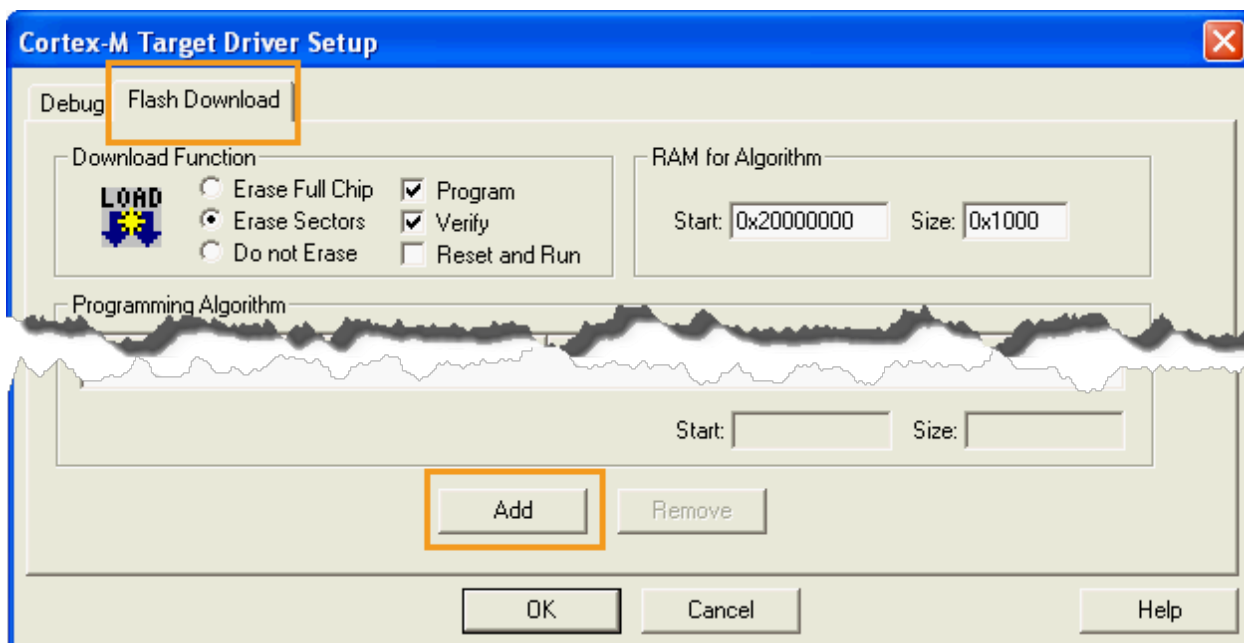

Figure 50. Select device flash programming algorithm
- 6) Click **Settings** to switch to **Cortex-M Target Driver Setup** and select **Flash Download** to add device flash programming algorithm (see Figure 50).